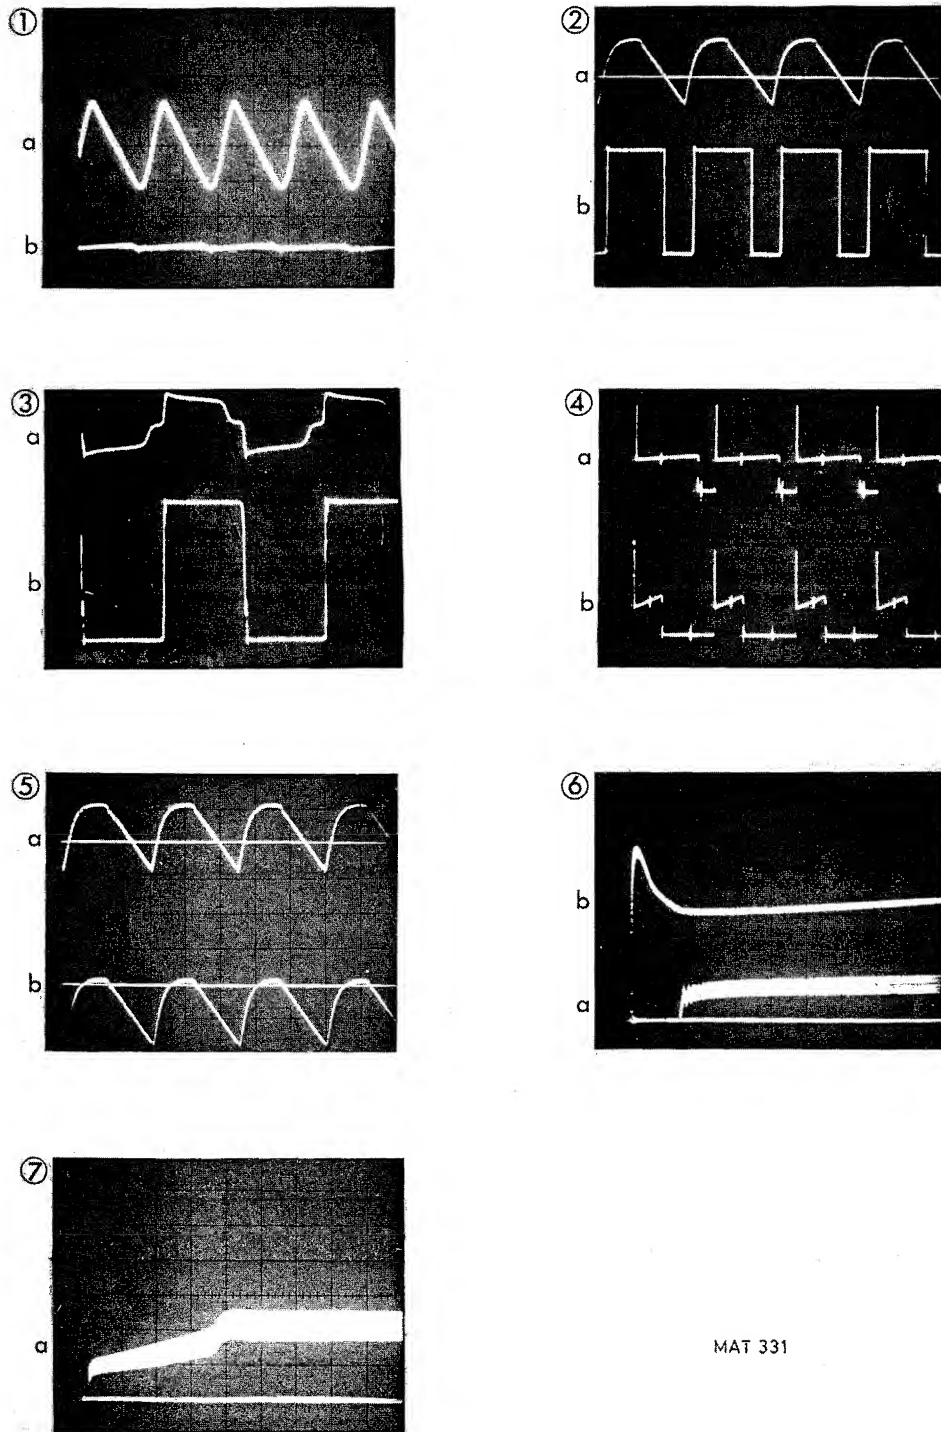

Fig. 3.14. Waveforms in the power-supply unit
3.7.2.4. Waveforms in the power supply unit fig. 3.14.